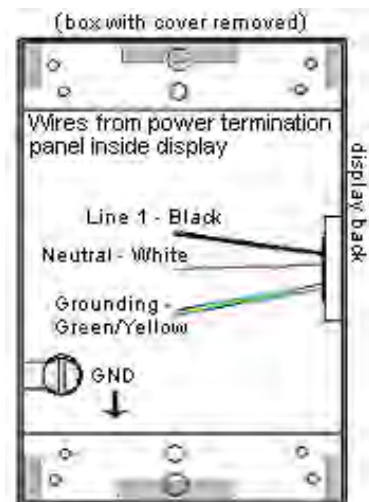

Figure 8: Power Termination Wiring
3. Inside the external power termination J-box, connect the power wires to the wires coming from the display interior using wire nuts. Refer to **Figure 8** for a diagram.
5. Install the wires from the direct circuit into the cage clamps (**Figure 8**).